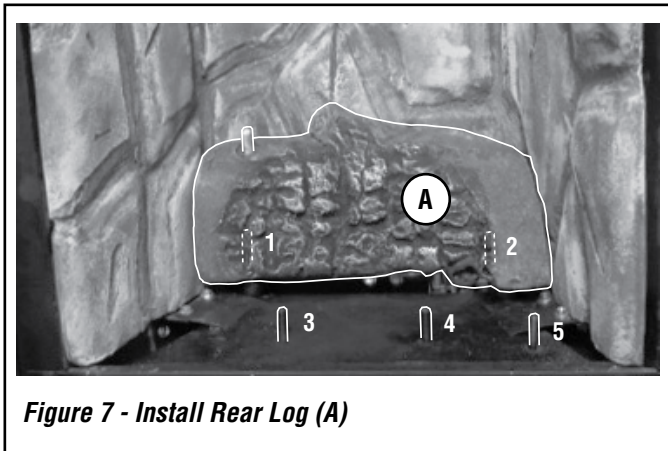

Figure 7 - Install Rear Log (A)
1. **Place the rear log (A) as shown in Figure 7.** Position the 2 holes on the bottom of the log over the corresponding locating pins (#1 & #2) and against the log support bracket. See **Figure 6** for pin and rear bracket locations.